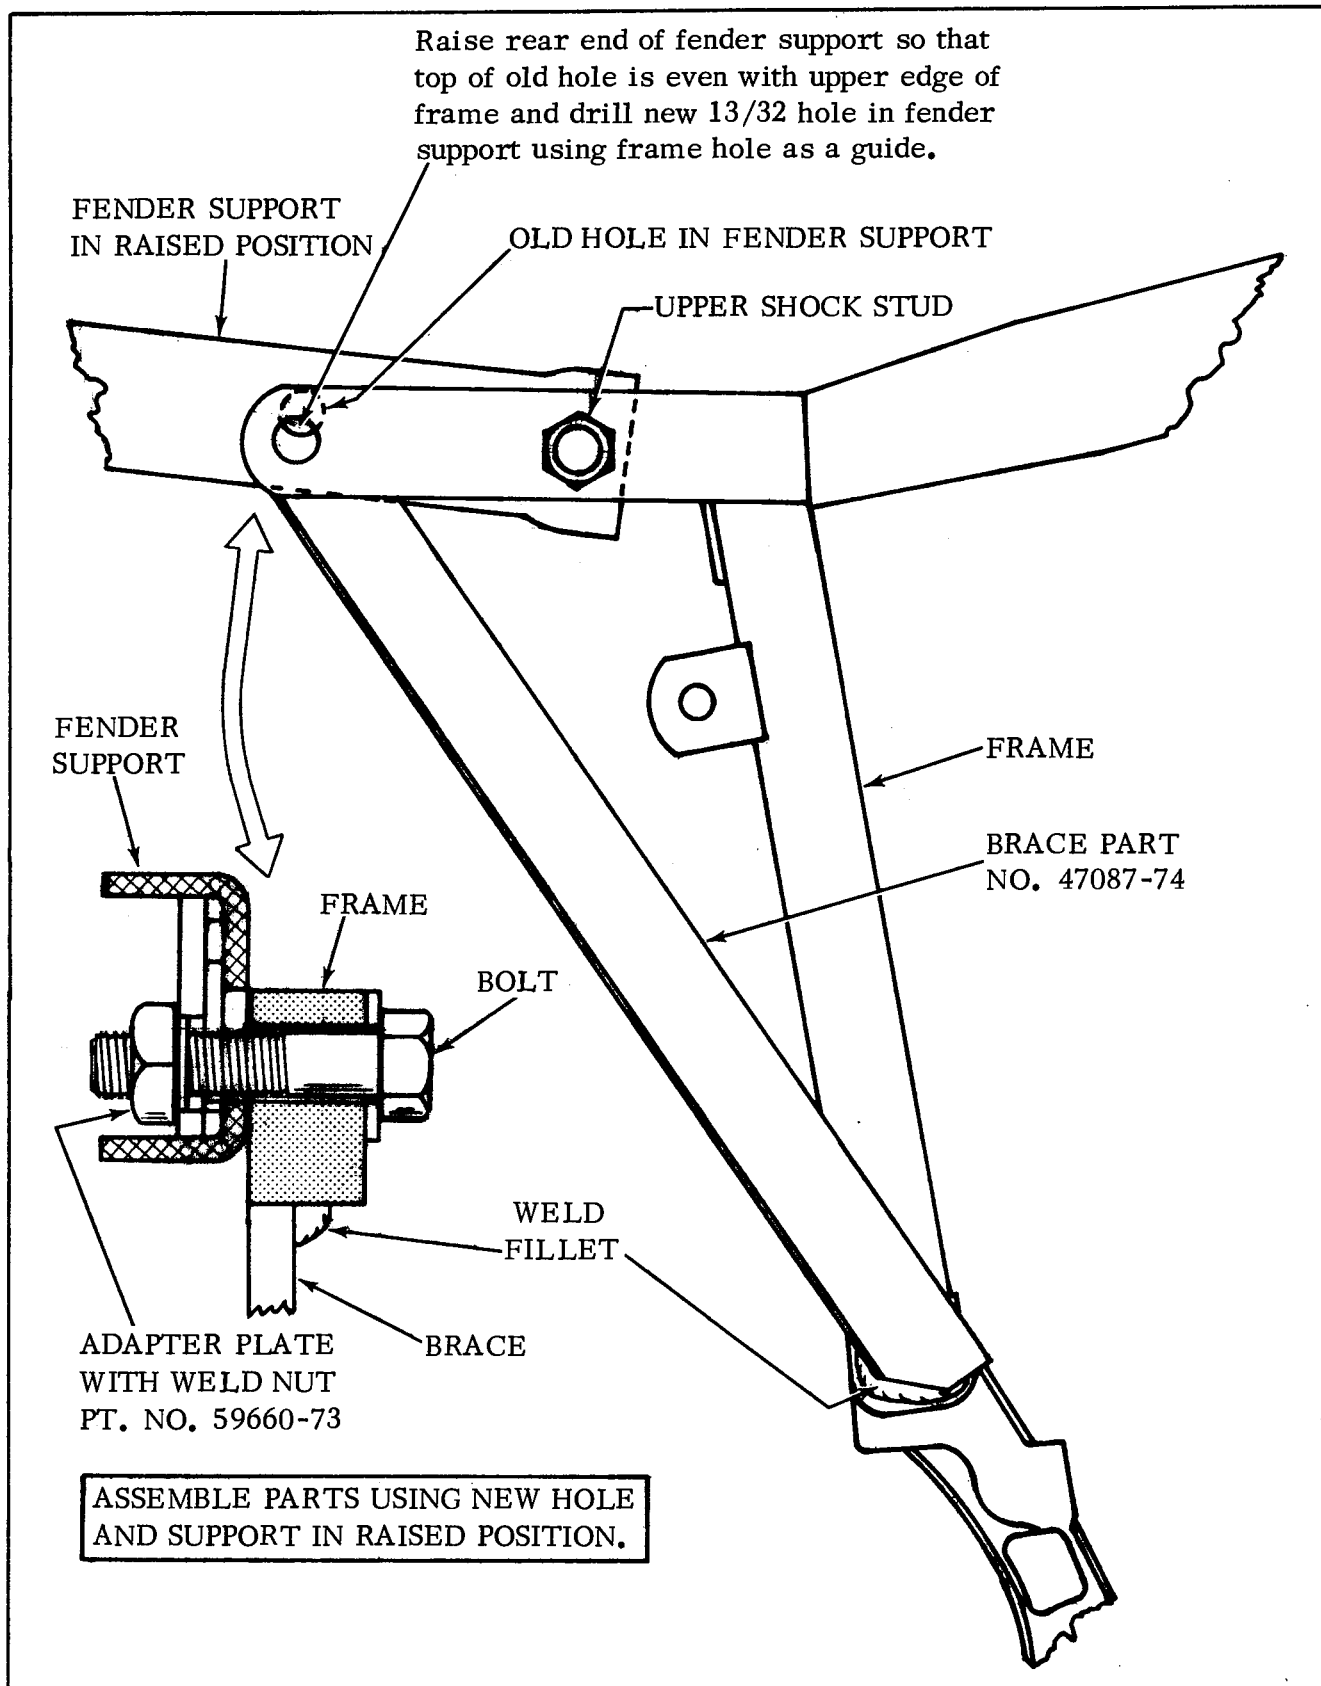

FIGURE 2
5. Remove fender brace rear bolts and chisel weld nuts from inside of braces (See Figure 2 for location).
To drill the new hole in the fender support, rotate fender supports upward until tip of existing hole lines up with top of frame (see Figure 2). Drill out brace with 13/32 drill on each side being careful not to damage wiring on left side.
8. Lower fender and install fender adapter plates on inside of braces as shown in Figure 2. Note that weld nut is off center and should be located in lowest position to line up with bolts. Reinstall bolts with washers in new location.
Note: Brace upper end should be positioned with inside surface flush with inside surface of frame bracket as shown in Figure 2 so that weld will form a fillet with good penetration.